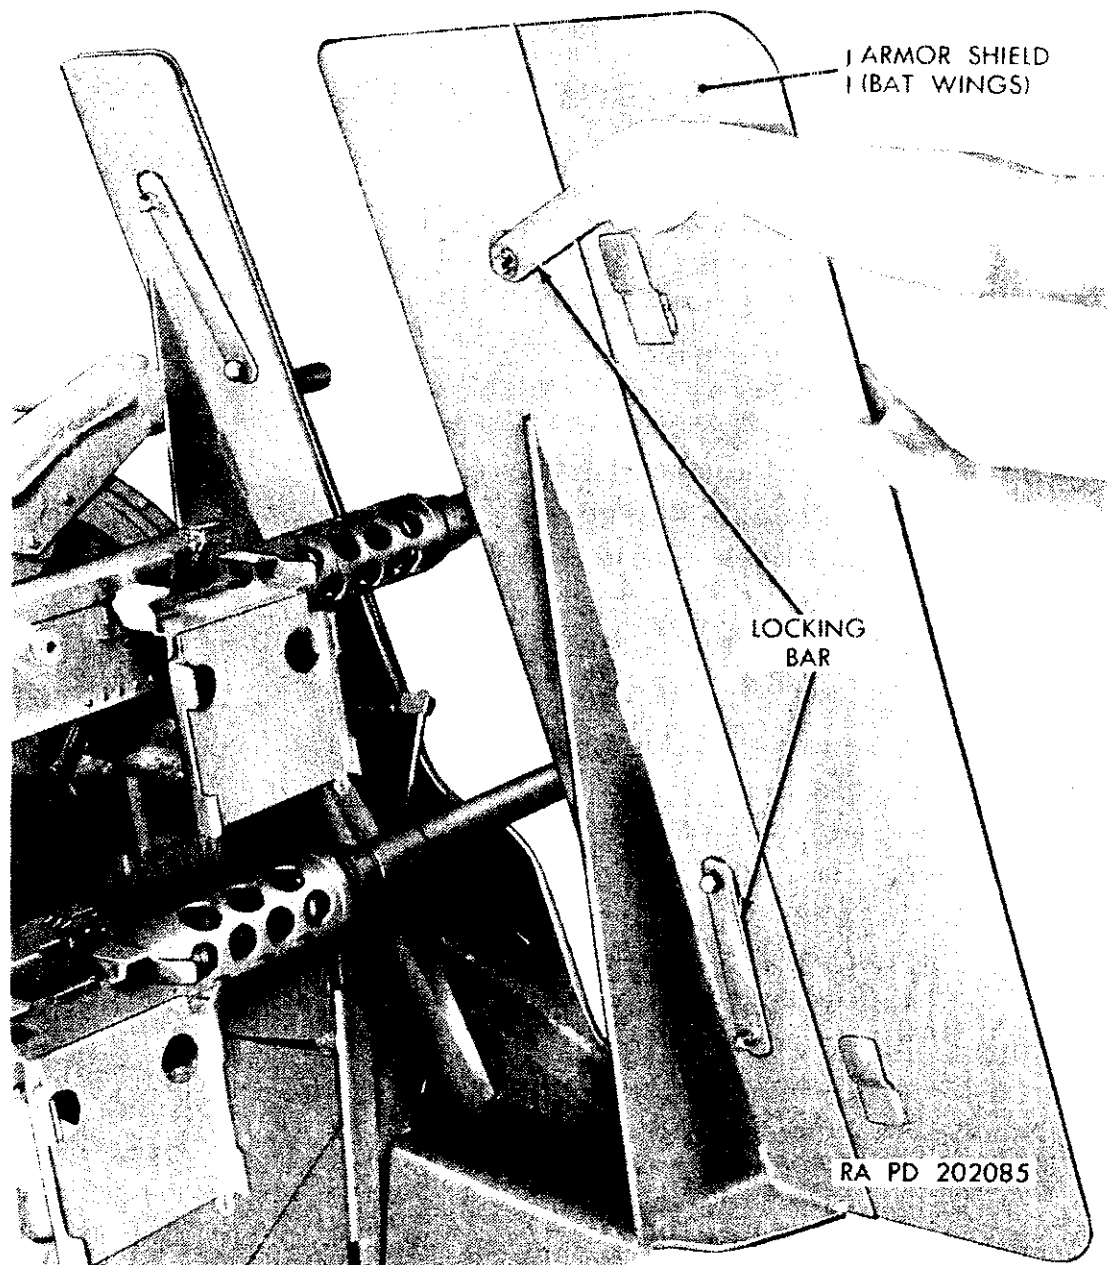

Figure 31. Locking armor shields (bat wings) on mount M15F.
b. The armor shields swing on hinges and are locked by locking bars (fig. 31) for maximum protection.